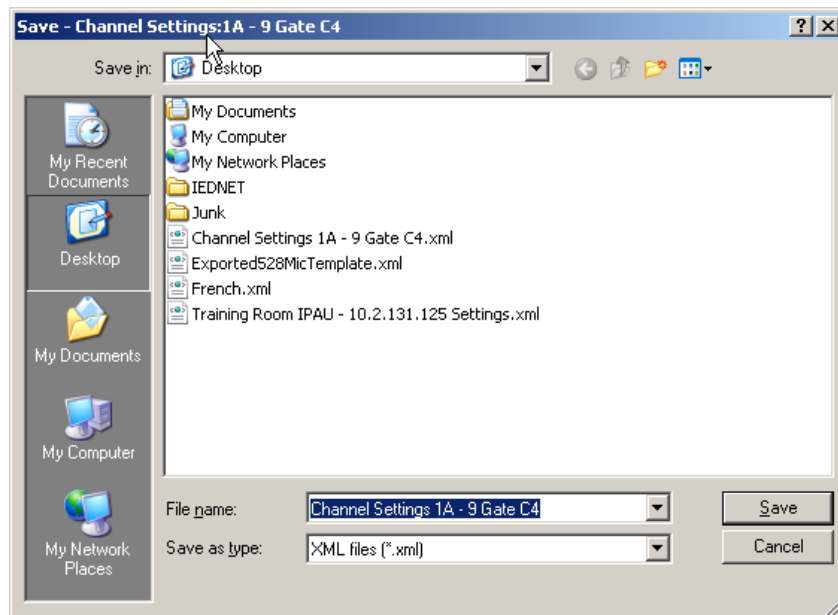

Figure 2-21: Save Channel Settings
2. The *Save - Channel Settings* dialog will appear as shown in Figure 2-21.
This option is used to save all channel settings to a file. That file can be used as a backup to restore settings in the event of a hardware replacement or to easily re-use settings from one channel to another. Selecting this option will cause the **Save - Channel Settings** dialog window to appear as shown in Figure 2-21.